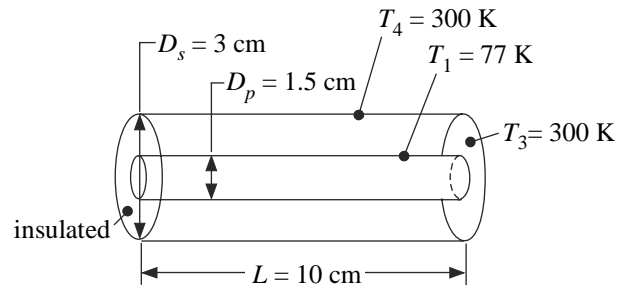

**Figure P10.3-15: Braze oven.**
10.3-15 A braze oven is made by heating the bottom surface of a cylindrical enclosure as shown in Figure P10.3-15.